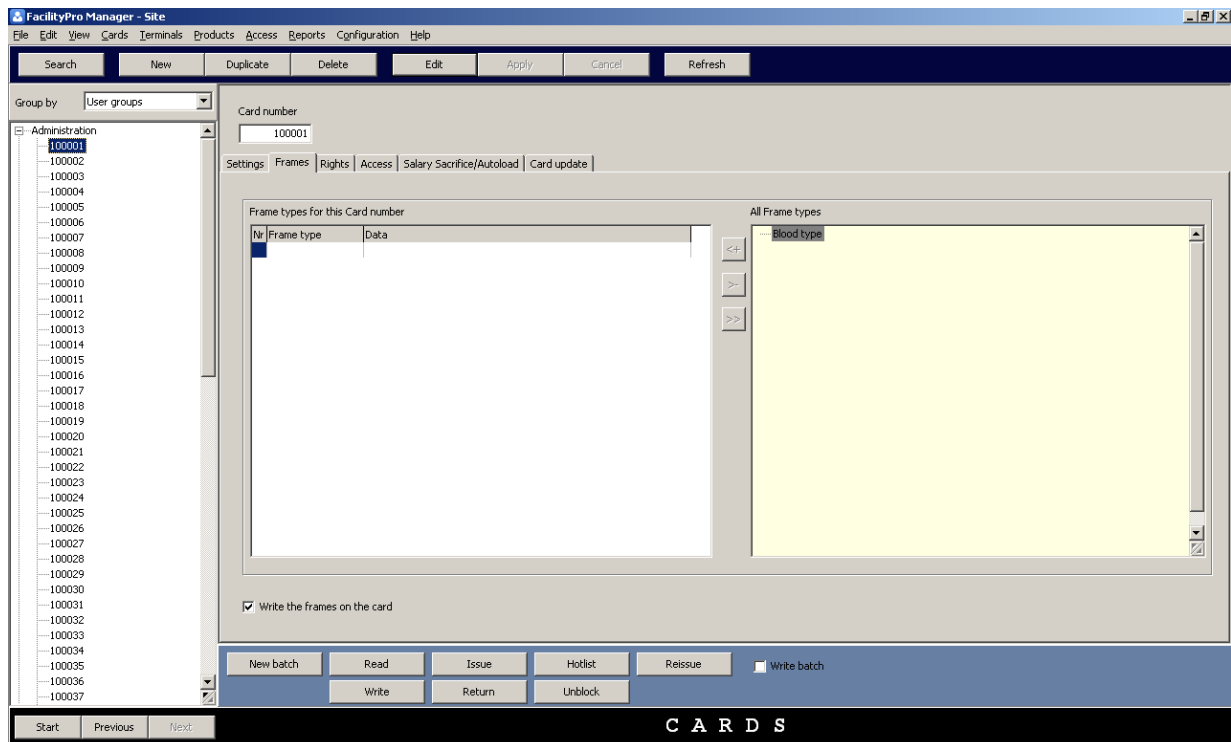

Figure 3-4 The tab 'Frames' of the cards data screen
5. Click the tab 'Frames'. You will see the tab 'Frames' (Figure 3-4). On the right you will see a list of all the frame types. On the left you will see a list (which might be empty) of frame types that have been assigned specifically to frames of this card.
5. Click the tab 'Frames'. You will see the tab 'Frames' (Figure 3-4).